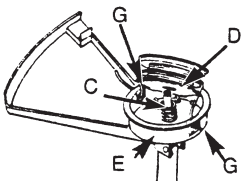
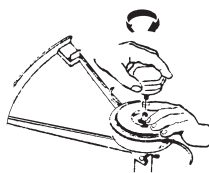

Fig. 20.
Fig. 22.
7. Push in the spring (C) on the bottom of the spool (if it is not already secure). Pull the ends of the line through the holes (G) in the side of the housing (E). See fig. 20.
8. Push the spool (B) into the housing whilst feeding the ends of the line through the holes (G).
9. Press down the spool (B), depressing the spring, tug the ends of the line, freeing them from the slots (F) in the spool.
10. Push the assembled trimmer head onto the spindle, screw on the locking cap (A) clockwise (only finger tight). (See fig. 22)